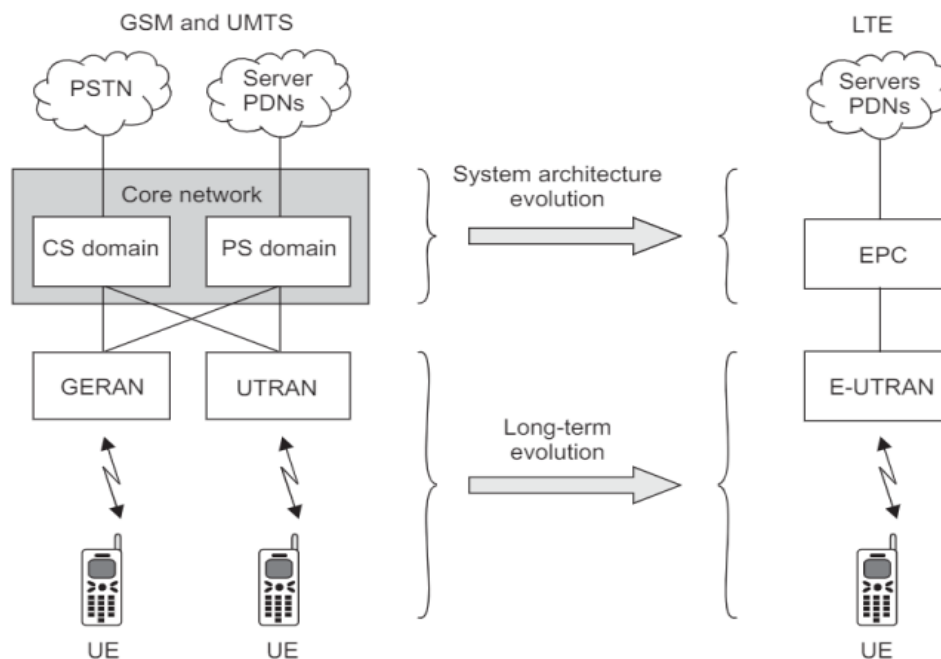

Fig 5.12 Evolution of the system architecture from GSM and UMTS to LTE
- Fig 5.12 shows the resulting architecture and the way in which that architecture developed from that of UMTS.